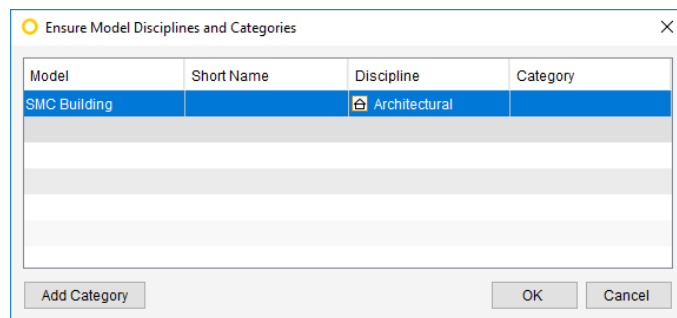

Figure 9: Ensuring Model Disciplines
- 3) Model discipline: When the model is opened, you will be asked to verify the discipline the model belongs to. You can also set a category for different types of files. Setting the correct discipline is paramount for the rules to work correctly (see Figure 9).